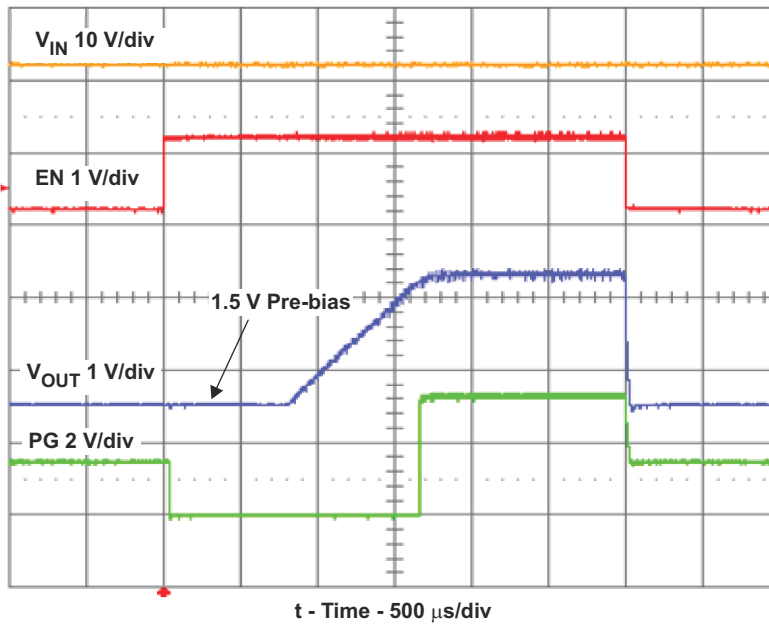
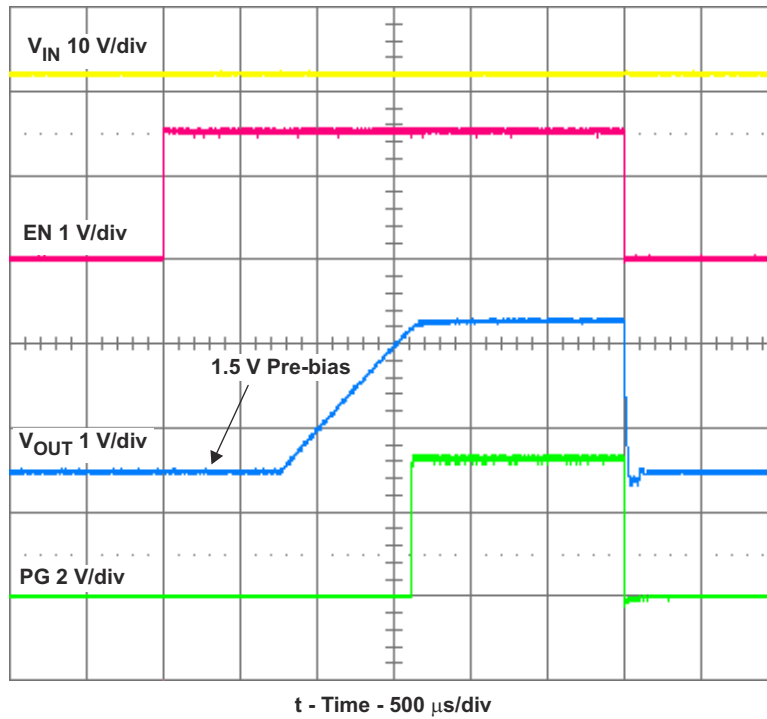

Figure 3-14. TPS62130 Prebias Start-Up and Shutdown on EN With 1-A Load and $V_{in} = 12$ V
Figure 3-15. TPS62130A Prebias Start-Up and Shutdown on EN With 1-A Load and Vin = 12 V
- (1) EVMs made before August of 2013 use the non-A version of U1. The only difference between these devices is the operation of the PG pin when the device is disabled, as shown in Figure 3-14 and Figure 3-15.